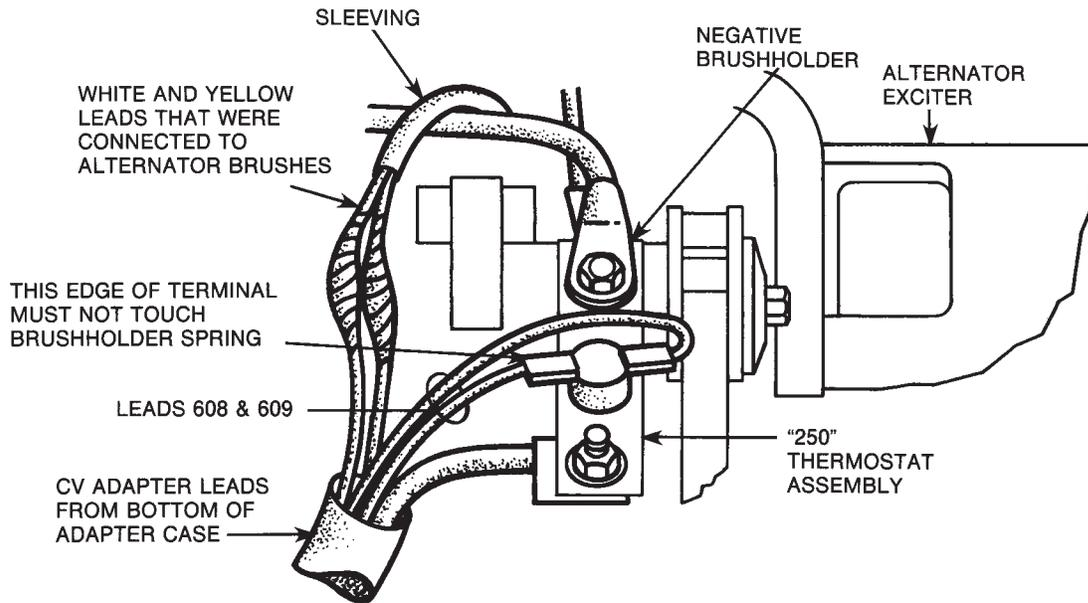

FIGURE 7 – View of Negative Generator Brushholder after Bracket Cover is Removed.
**NOTE:** FOR STEPS 8 THROUGH 11, REFER TO FIGURES 7 AND 11A.